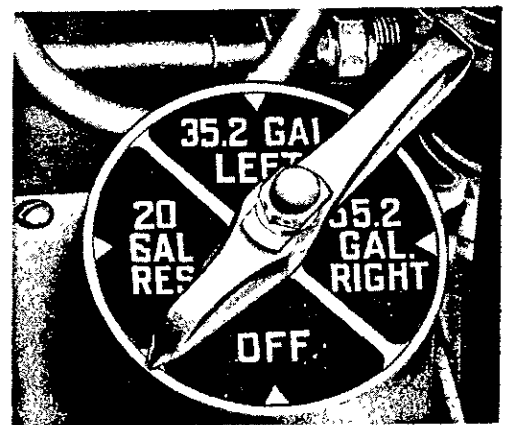

Figure 18—Fuel Selector Control
- l. Turn fuel selector to "RESERVE". (See figure 18.)